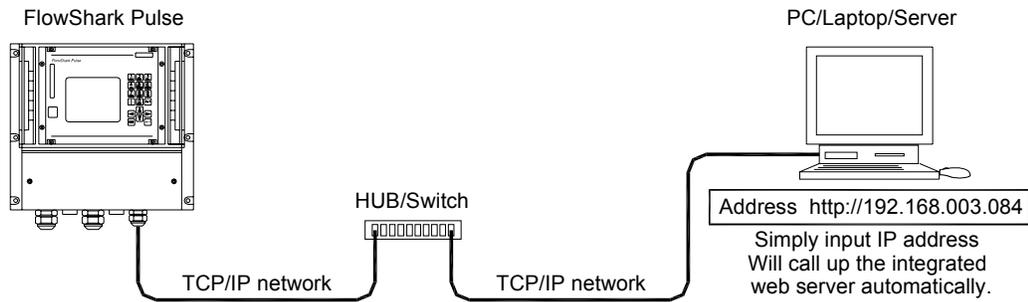

Figure 6-45 Communication without a server
- Ethernet connection over a TCP/IP network connection through an Ethernet hub or switch (see Figure 6-45) using patch cables